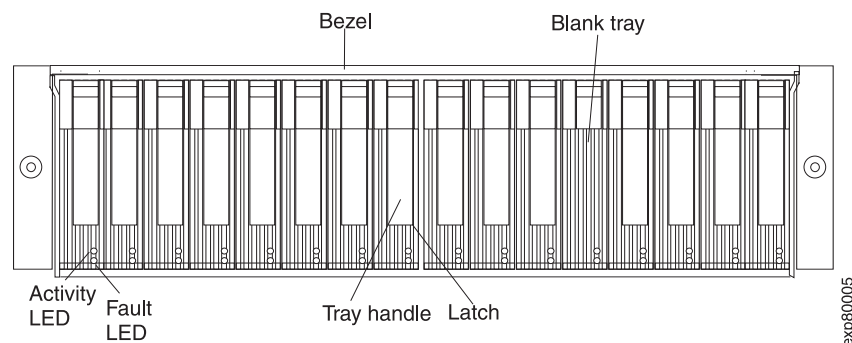

Figure 34. Hot-swap E-DDM LEDs
2. Check for Fault LEDs shown in Figure 34. If any amber LEDs are lit, see “Solving problems” on page 91.